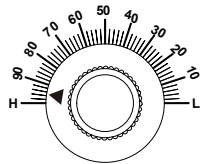

Figure 3
4. Turn the knob clockwise from H position to 90% position about 1/2 circle (95% position) until LED indicator shut off (Figure 3). Then, Initial calibration is complete. After that, please continue to next step "SENSITIVITY ADJUSTMENT".